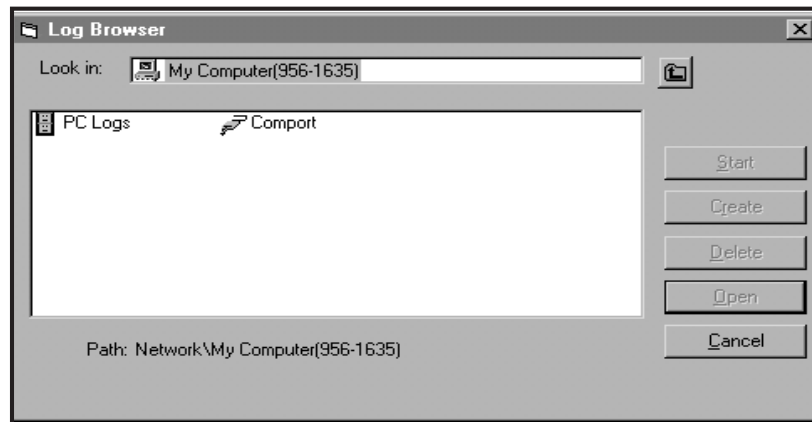

Figure 15: Log Type Selection
2. Double click on the *computer name* to advance to the dialog box shown in Figure 15.